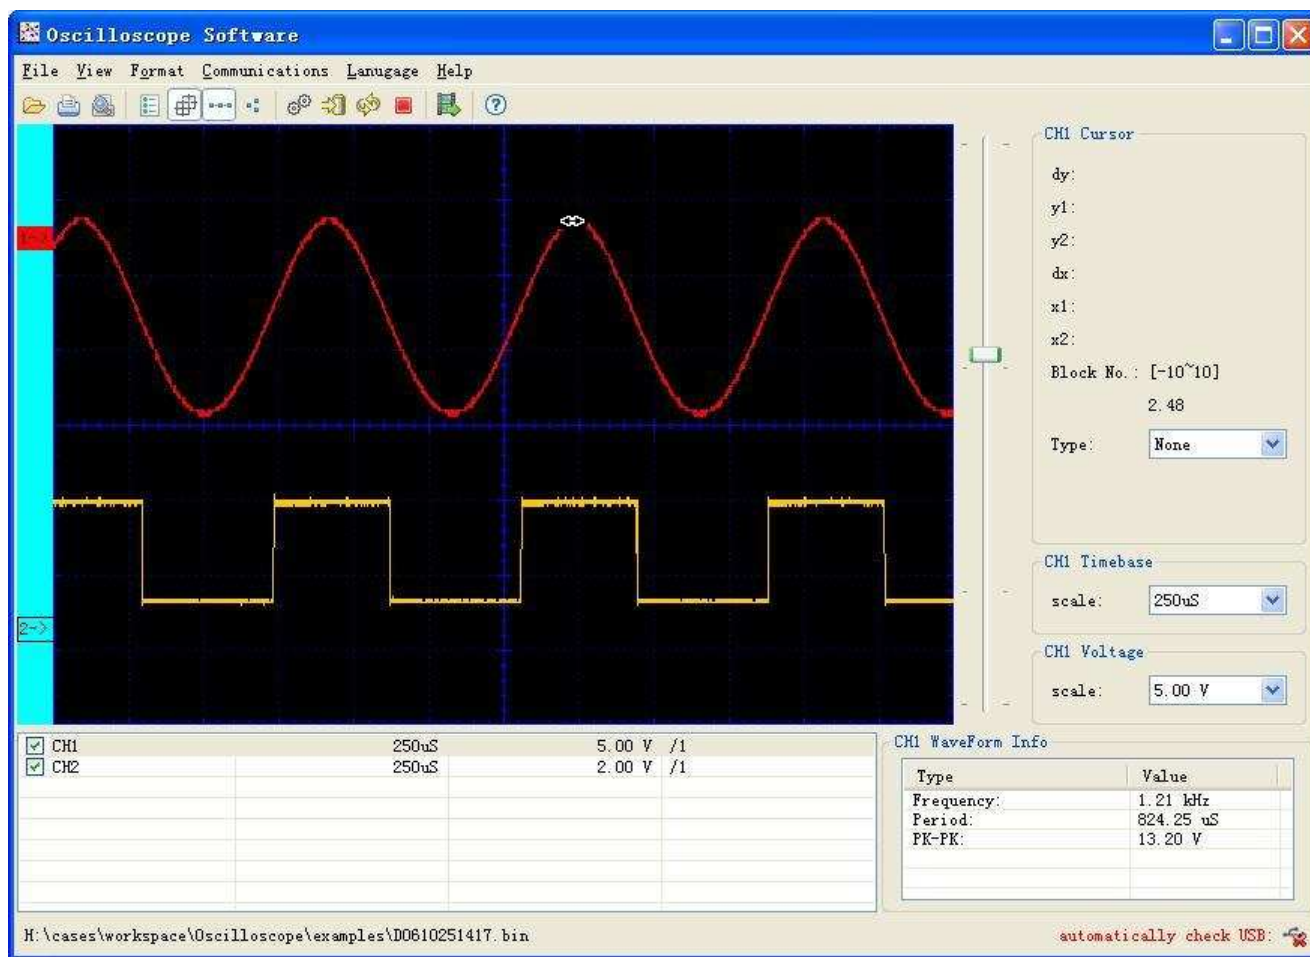

Fig 5-1-1
##### 1. Operation for waveforms display range: (Fig 5-1-1-5)
(2). Waveform move left and right: Move the mouse to the waveform, it becomes icon, then drag the mouse to make the waveform left and right as Fig 5-1-1